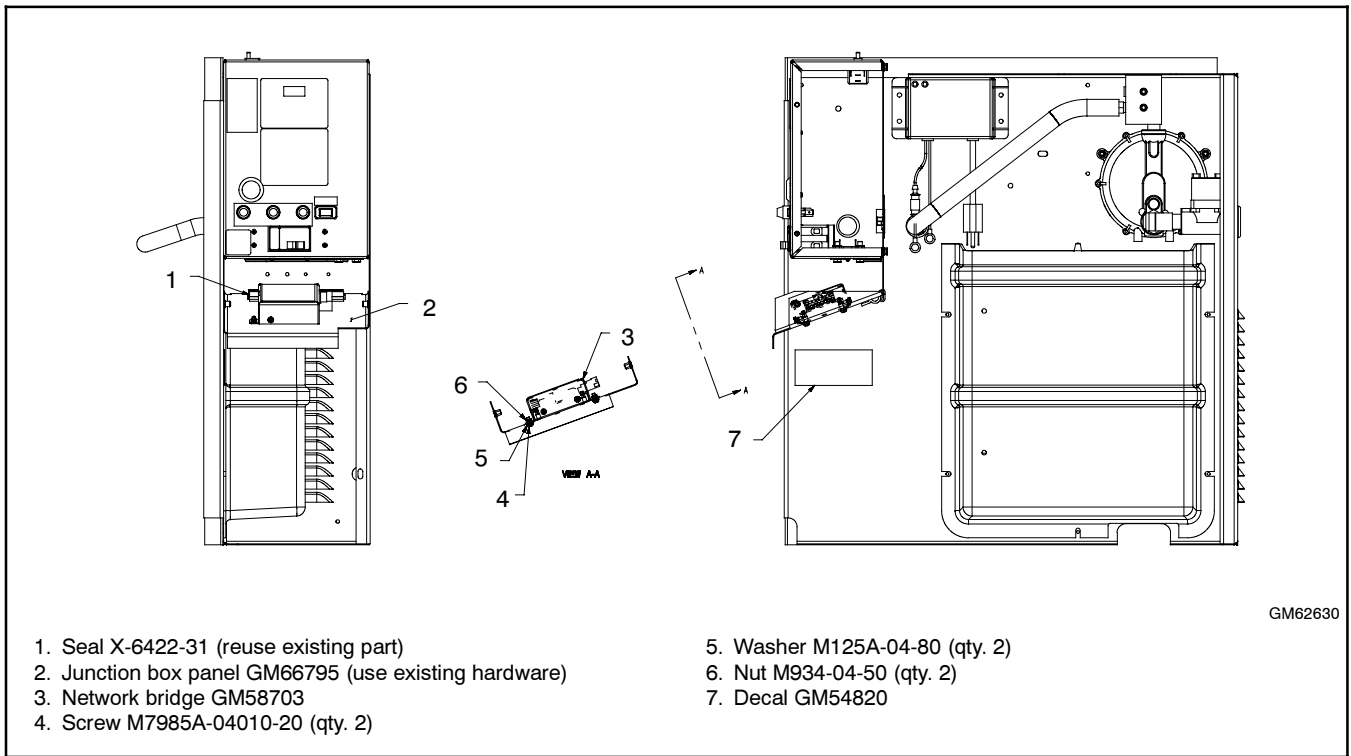

Figure 10 8.5/12RES Bridge Installation
- c. Install new J-box panel GM66795 as shown in Figure 10. Use the existing hardware and seal X-6422-31.
- d. Affix decal GM54820 in the location shown in Figure 10.